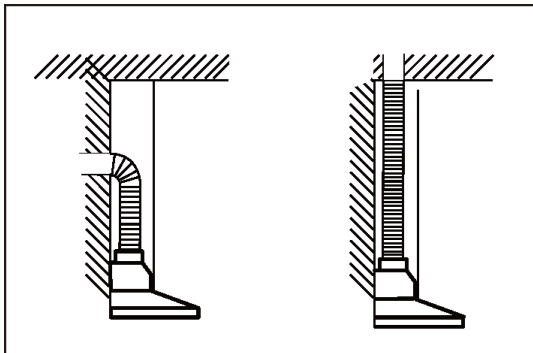

Fig. 4
b) When possible, use at least 60 cm straight runs before any turns. Larger duct work may be required for best performance with longer duct runs. (see Fig. 4)